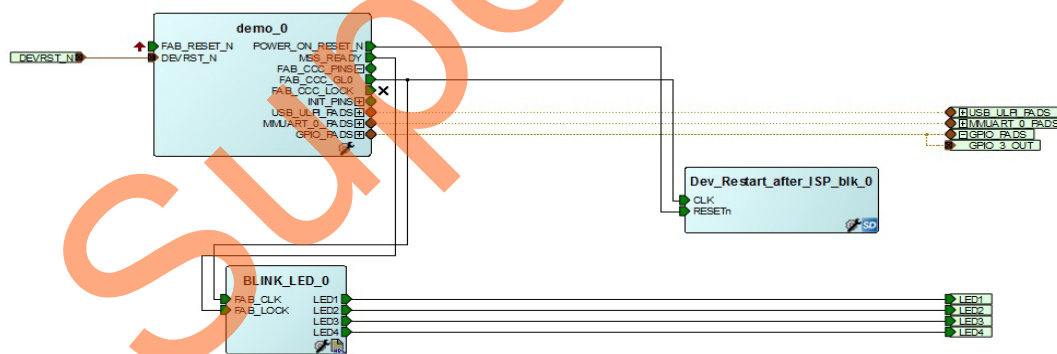

Figure 31 • demo_top SmartDesign
- Make the connection as shown in Figure 31 and generate **demo_top** SmartDesign. This completes the implementation of the workaround.